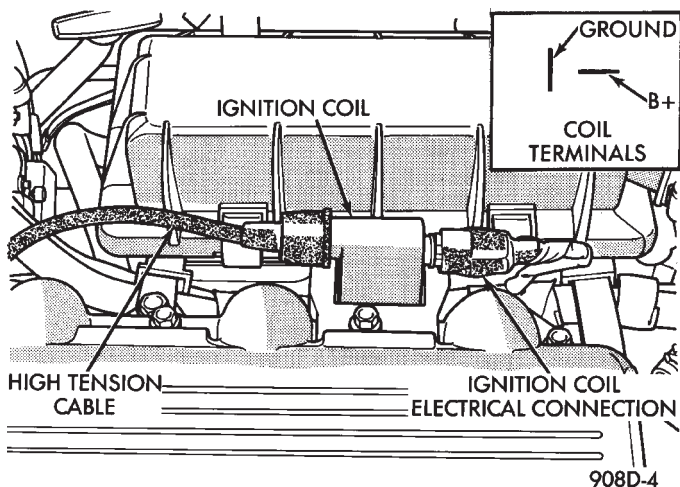

Fig. 2 Ignition Coil Electrical Connection
(1) Check for correct spark plug cable routing. Ensure the cables are completely connected to the spark plugs and distributor.
(2) Check ignition coil electrical connections (Fig. 2).